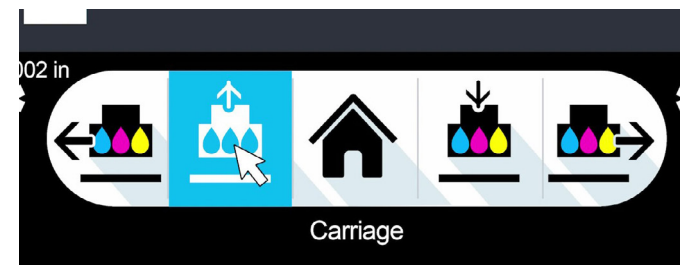

Figure 4-12 Move Carriage Up
1. From the printer software main window, click the carriage up arrow (Figure 4-12) to raise the print carriage and allow access to the print head plate.